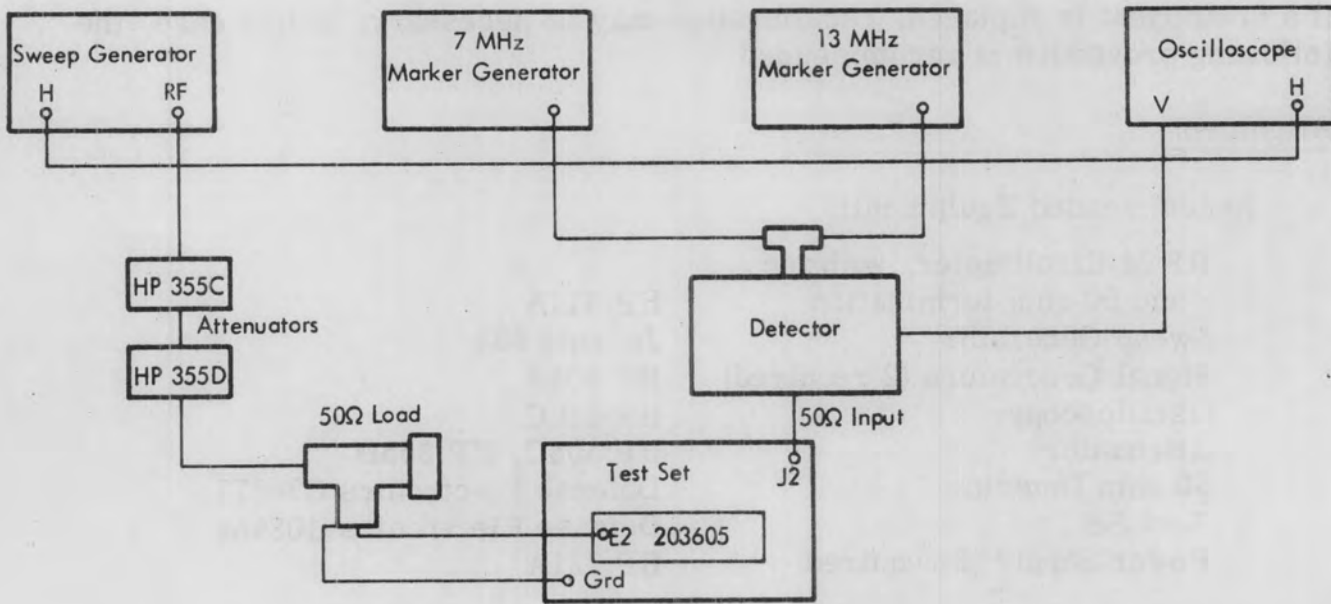

Figure 1. Equipment Setup for Alignment
- b. Adjust R3 and R6 (on the subassembly) for +2V at TP1, adjust R39 maximum counterclockwise then clockwise four turns. Connect equipment as shown in figure 1.